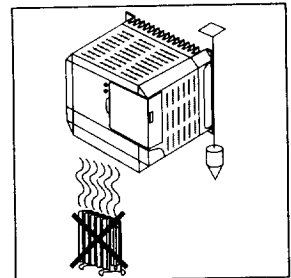

Figure 4 Mounting Precautions
- Mount the drive controller vertically, as shown in Figure 4. Avoid placing near any heat sources.